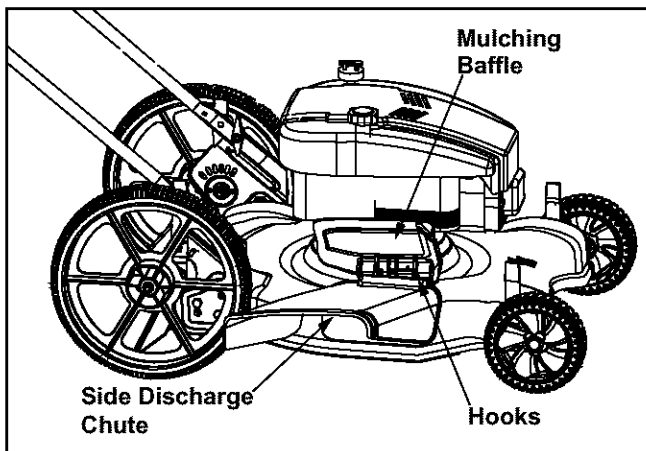

Figure 9
- Slide the hooks of the side discharge chute over the hinge pin on the mulching baffle. Make sure that the hooks snaps into place, locking the chute firmly onto the mower. See Figure 9.